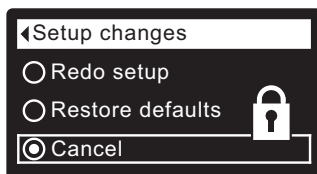

FIG. 34
8. Press the RIGHT (►) button. A flashing padlock icon will appear, as shown in Figure 34.
- 1-7. Go to the **Setup changes** screen (Figure 34) by following Steps 1-7 at left.